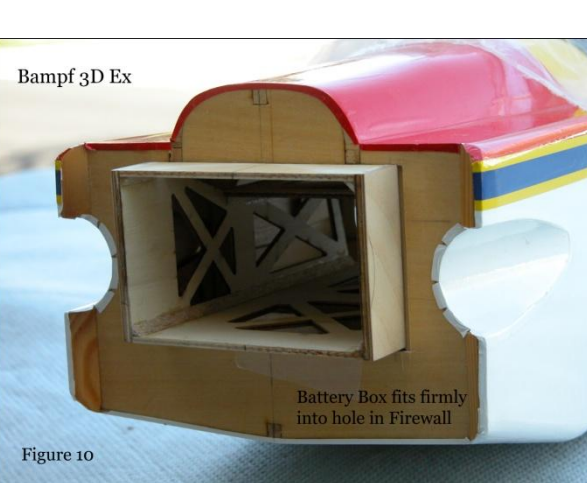

Figure 10
- d. Position the Battery Box with approximately 1/2" of the Battery Box protruding from the front of the Firewall. (Figure 10)